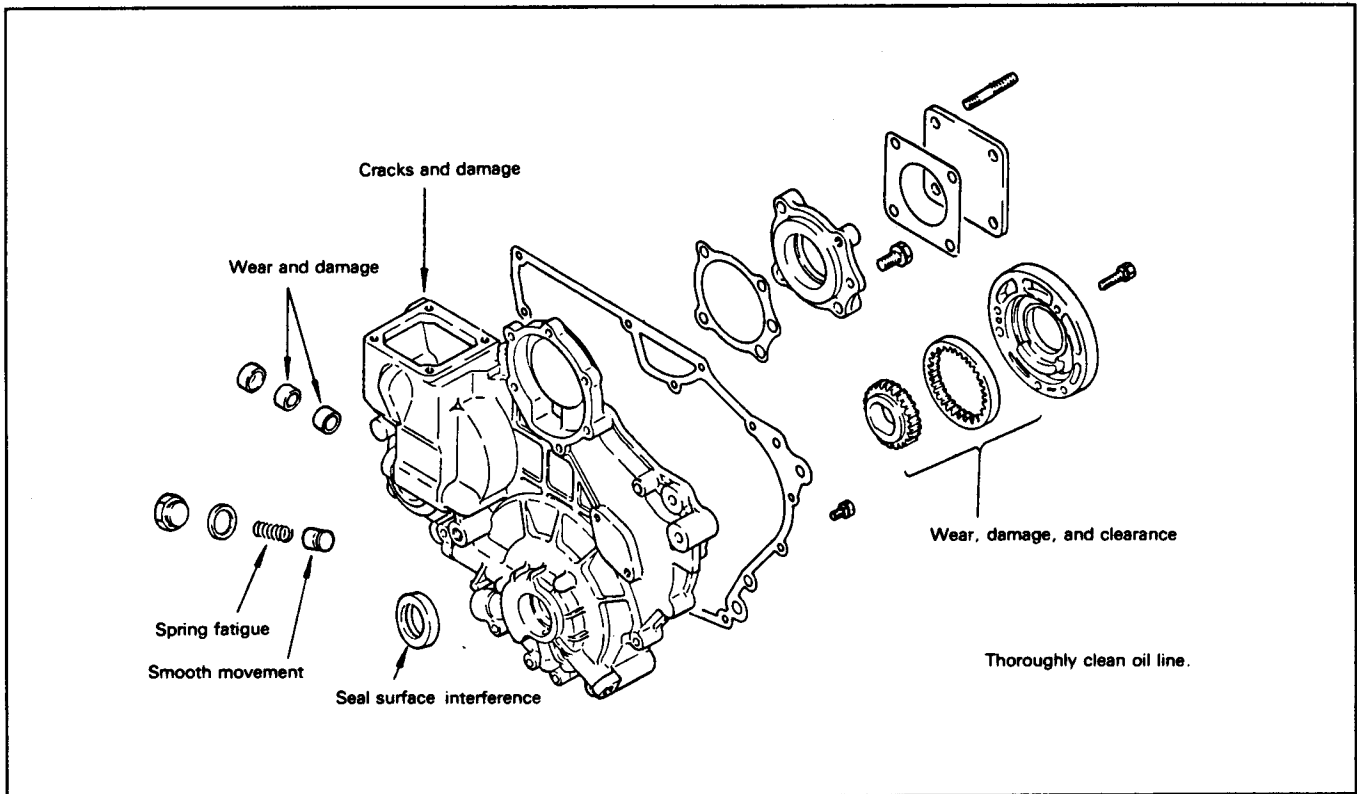

Figure 73
7. Check removed parts for wear or damage (Fig. 73).